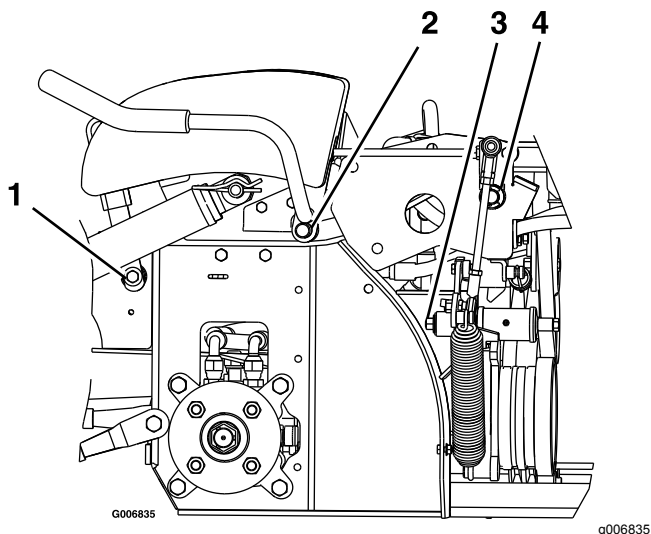

Figure 32
3. Lubricate the bronze bushings on the brake-handle pivot with a spray type lubricant or light oil (Figure 32).